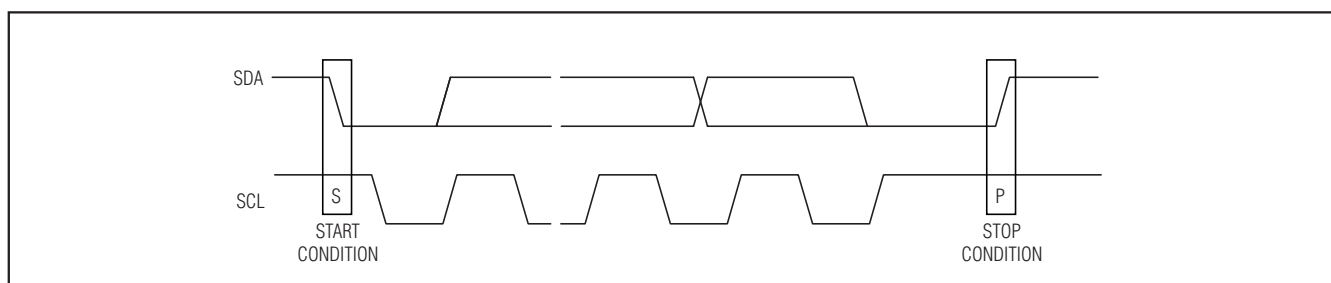
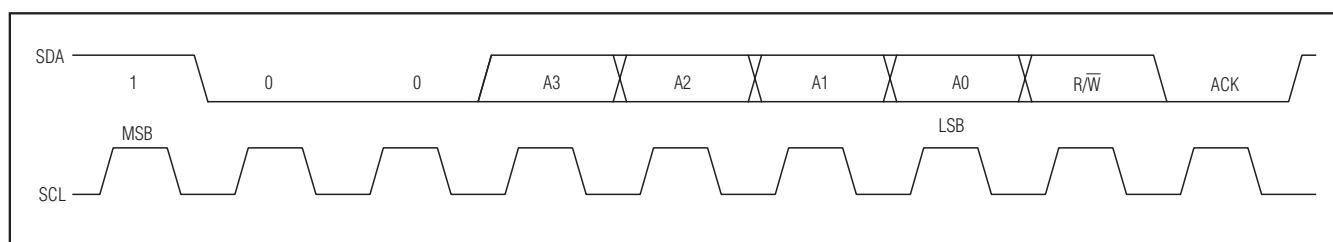

Figure 3. Standard Stop Conditions
Figure 6. Slave Address
Each transmission consists of a START condition (Figure 3) sent by a master, followed by the MAX6956 7-bit slave address plus R/W bit (Figure 6), a register address byte, one or more data bytes, and finally a STOP condition (Figure 3).
has finished communicating with the slave, it issues a STOP (P) condition by transitioning SDA from low to high while SCL is high. The bus is then free for another transmission (Figure 3).
The MAX6956 has a 7-bit-long slave address (Figure 6). The eighth bit following the 7-bit slave address is the R/W bit. It is low for a write command, high for a read command.